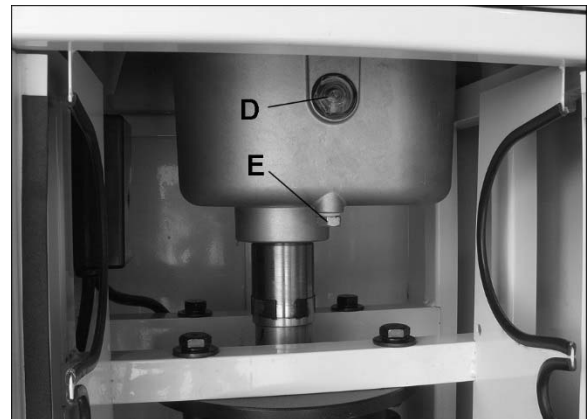

Figure 15
Periodically check oil level at the sight glass (D, Figure 15) – oil should be mid-level in the glass.
2. Remove drain plug (E, Figure 15) with 14mm wrench. Dispose of used oil properly. Reinstall drain plug.